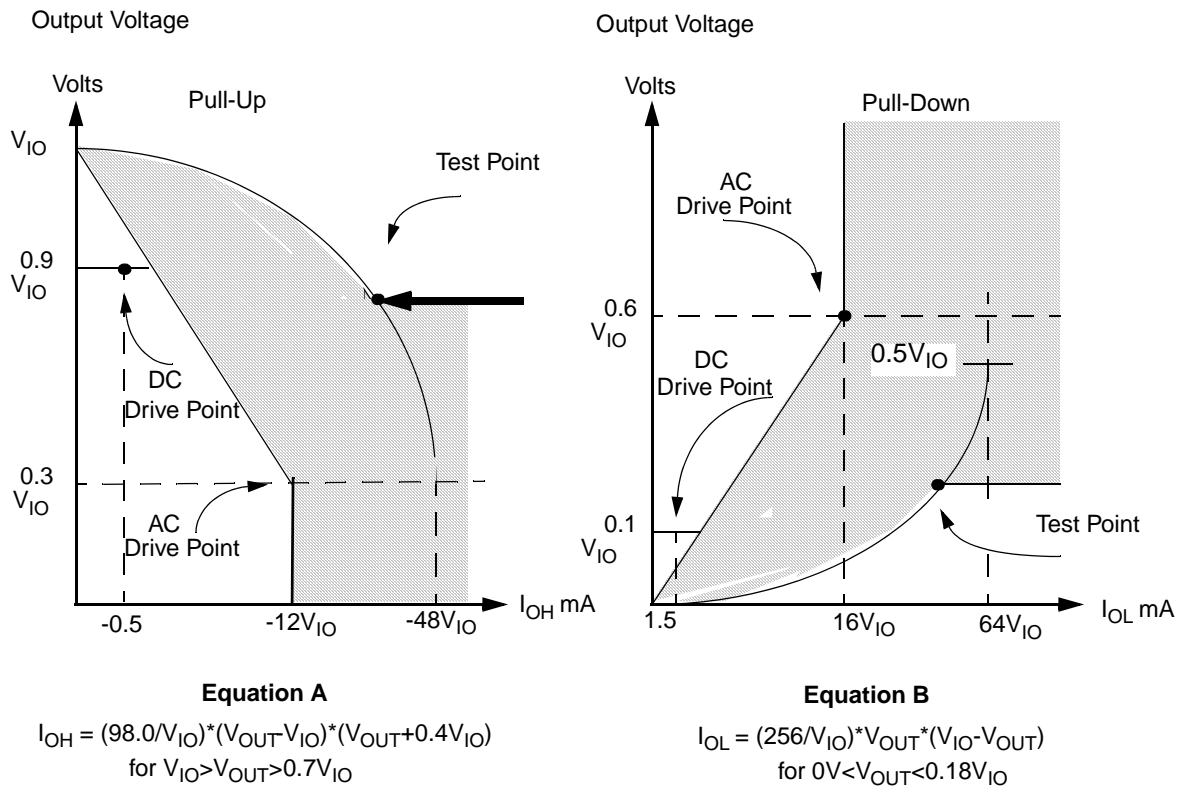

Figure 7-11. V/I Curves for PCI Output Signals
The SC1100 is compliant with PCI Bus Rev. 2.1 specifications. Relevant information from the PCI Bus specifications is provided below. Not all parameters in Table 7-12 are 100% tested. The parameters in this table are further described in Figure 7-11.
| | | | Equation A (Figure 7-11) | | $0.7V_{IO} < V_{OUT} < V_{IO}$ |
| | | | Equation B (Figure 7-11) | | $0.18V_{IO} > V_{OUT} > 0^1, ^2$ |
1. Refer to the V/I curves in Figure 7-11. This specification does not apply to PCICLK0 and PCIRST# which are system outputs.
2. Maximum current requirements are met when drivers pull beyond the first step voltage. Equations which define these maximum values (A and B) are provided with relevant diagrams in Figure 7-11. These maximum values are guaranteed by design.